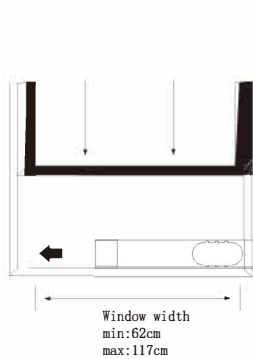

Fig. 10
The installation manner of window slider kit is mostly in "horizontal "or "vertical" .As shown Fig 10 and Fig 10a, check the min. and max. size of the window before the installation.
1. Install the window kit on the window(Fig. 10, Fig 10a);